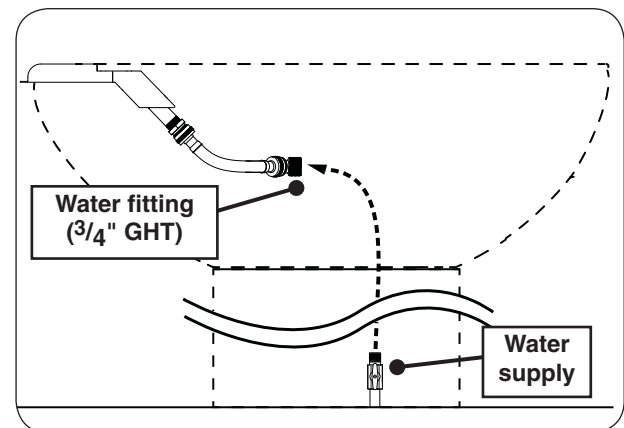

Fig. 31-2 Connect water supply (if applicable)
2. Plumb the water supply to the 3/4" GHT fitting (see Fig. 31-2).